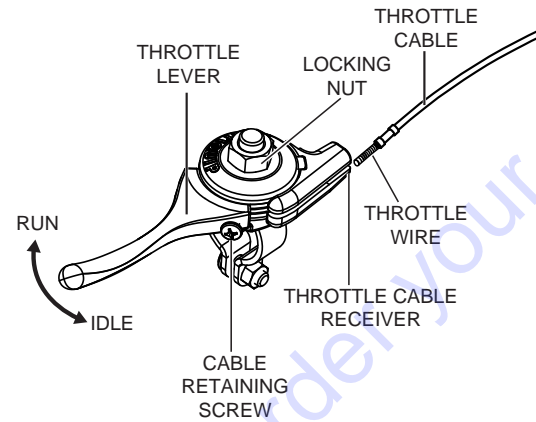

Figure 13. Adjusting Cable Tension
3. Connect the **trowel throttle cable** to the engine throttle linkage (Figure 13). There should be a piece of wire installed on the trowel to show where to route the throttle cable.
7. Adjust cable tension by loosening or tightening the locking nut and cable retaining screw on the throttle lever (see Figure 13).